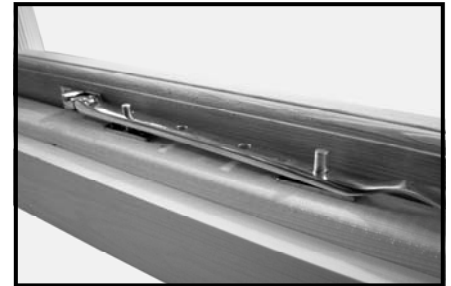

Fig A17
28. **Fitting the Casement Stays.** There are two per window. Place the casement stays evenly on the inside of the window (Fig A17 ) on top of the draught excluder.